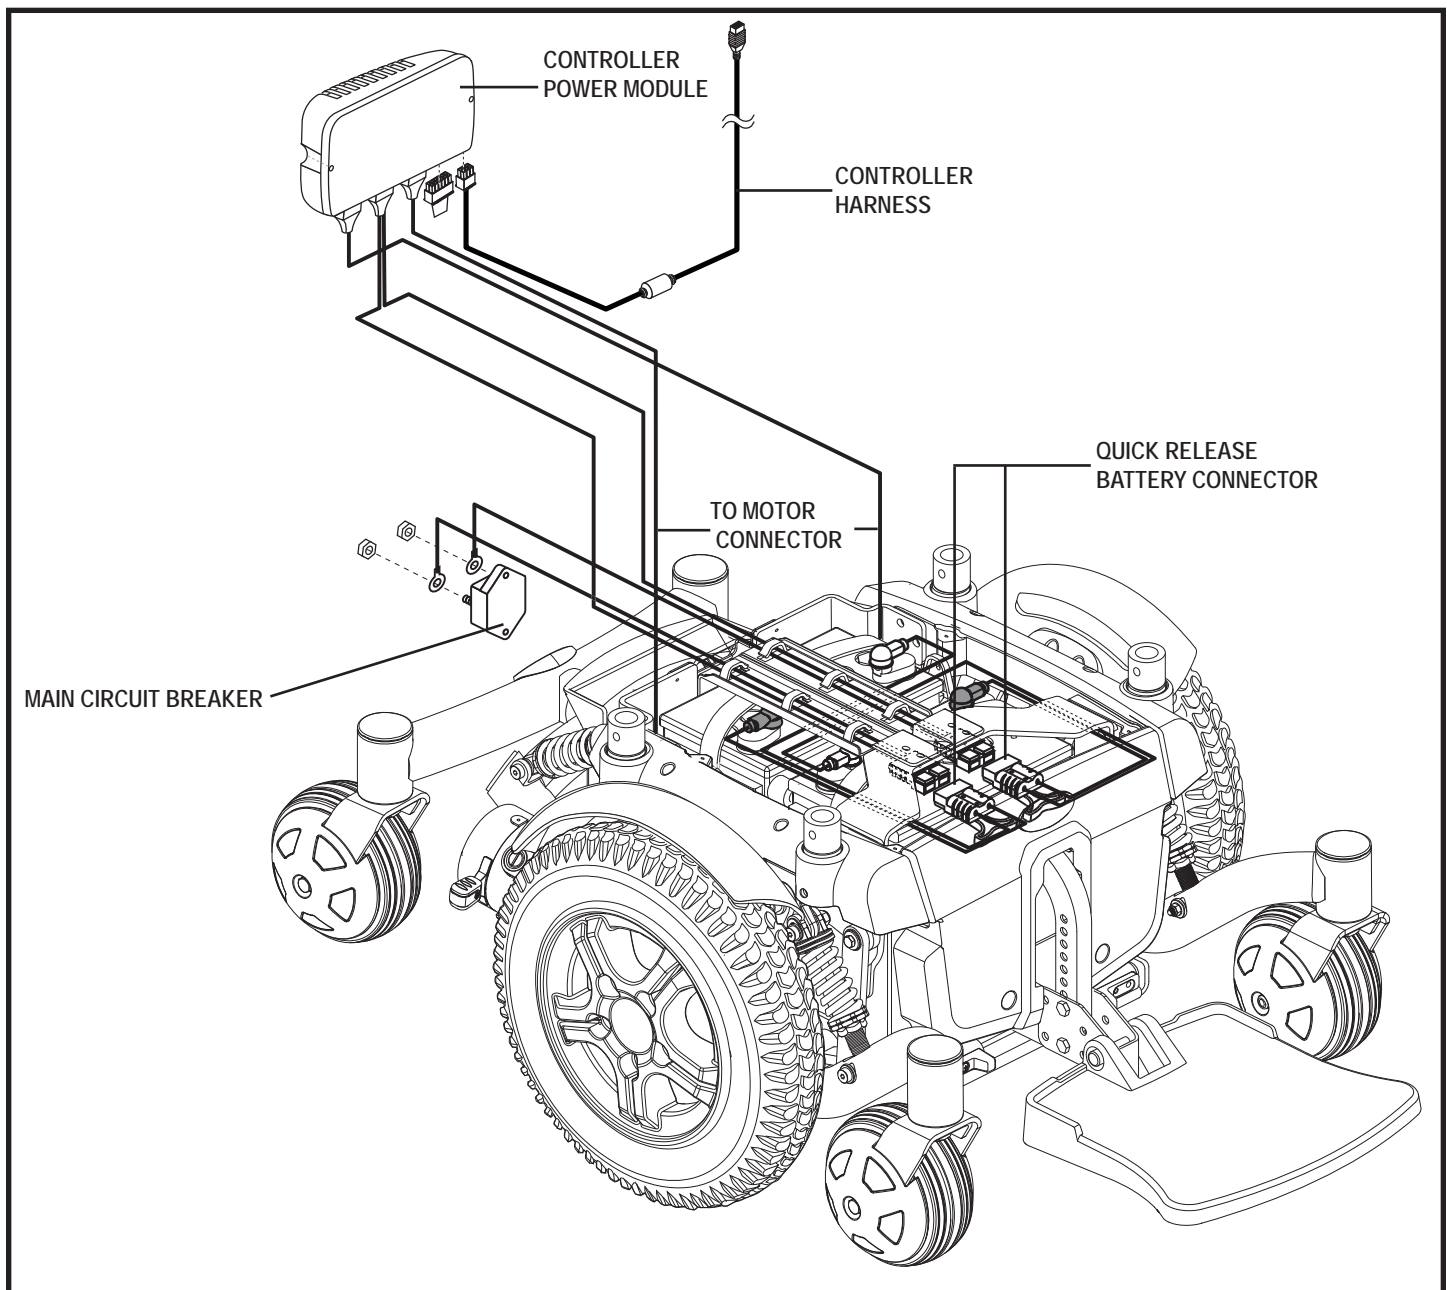

Figure 3. Quantum 6000Z Series Electrical Components
The electrical components consist of the controller assembly, the batteries, and the motors. The batteries, motors, and controller power module (if equipped) are located on the power base assembly. The controller is located on the seat assembly. Connectivity between the controller and the motors, batteries, and the battery charger is provided by one or more wiring harnesses. **See figure 3.**
6. Plug the controller connector into the power base. **See figure 3.**
4. Disconnect the controller connector(s) from the power base. **See figure 3.**